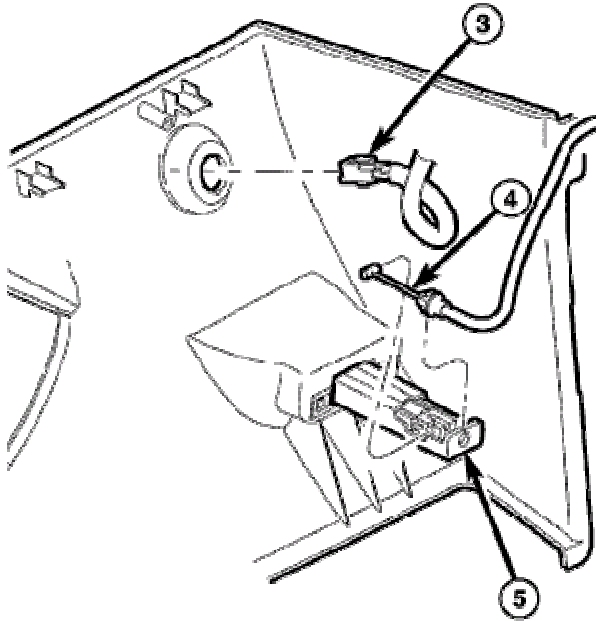

Fig. 5 Steering Column Cover (Back)
- Disconnect the wire harness connector (3) from the trunk release switch, if equipped (Fig. 5).
- Disconnect the release cable (4) from the emergency bracket release handle (5) and remove the steering column cover from the vehicle (Fig. 5).
3. Position the steering column cover (1) into the vehicle.
4. Connect the release cable (4) to the emergency brake release handle (5) (Fig. 5).
5. Connect the wire harness connector (3) to the trunk release switch, if equipped (Fig. 5).